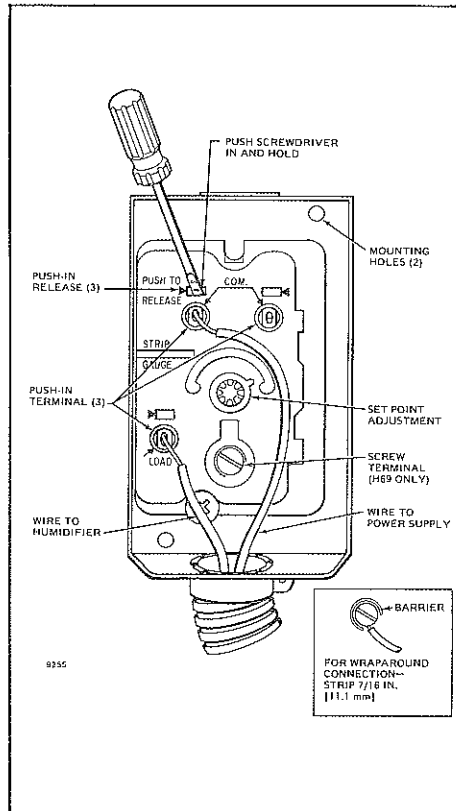

Fig. 4—Use of push-in and screw terminals.
2. Strip insulation from wires the length shown by the strip gauge. See Fig. 4.
4. H69A also contains a screw terminal. Connect wiring to terminal as shown in Fig. 4 inset.